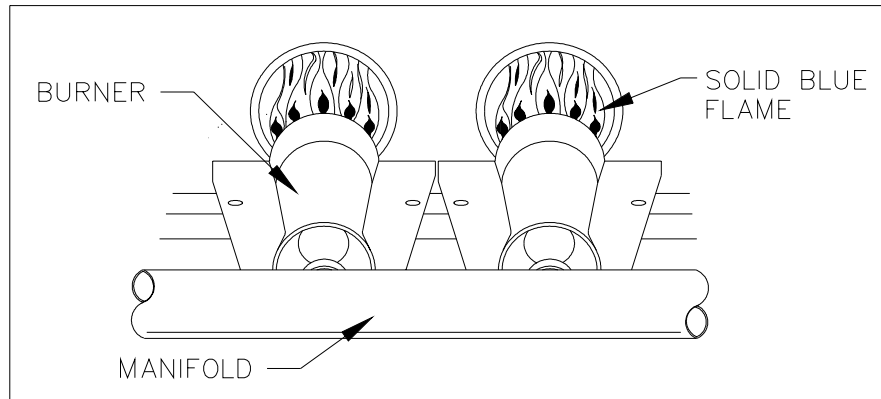

Figure 6.
9. Make sure the burner flames are in good adjustment (See Figure 6). Burner flames should not impinge or fire against the side of the tube opening.